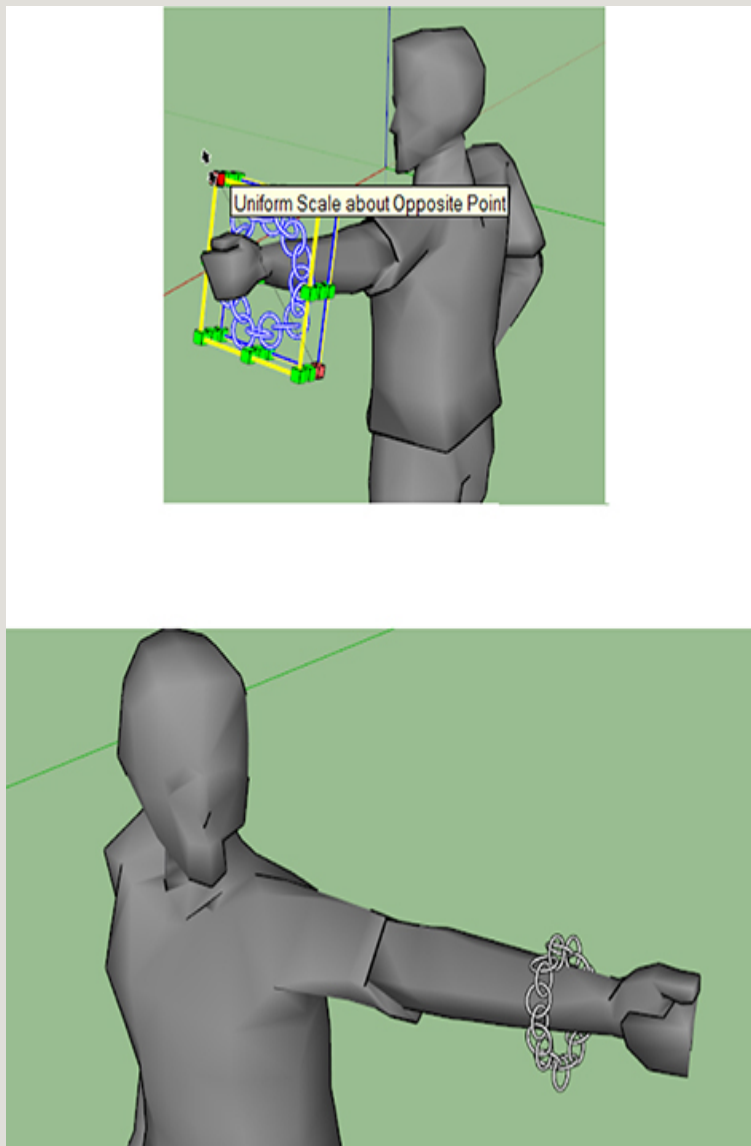

Figure 3-49 Scale the bracelet down.
10. Click it onto the bracelet. Green cubes called *grips* (Figure 3-49) appear. Hover the mouse over a corner grip. It will turn red to show that it's activated. Grab that red grip and press the CTRL key, which will force scaling around the center of the selection. Then drag the bracelet smaller until it's a more appropriate size.